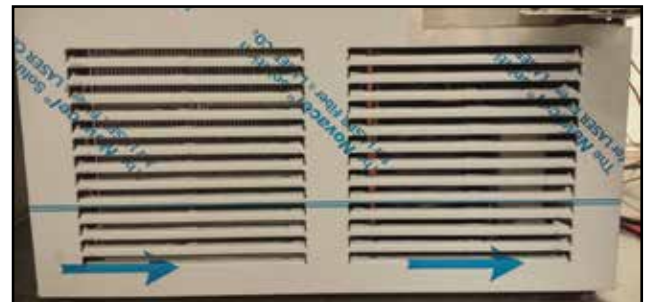

Figure 6-4.1. Grill/toe kick inlet and outlet
- Never obstruct air flow in and out of the machine compartment. The front grill must be free from obstructions, dust and debris. See *Figure 6-4.1 and 6-4.2.*